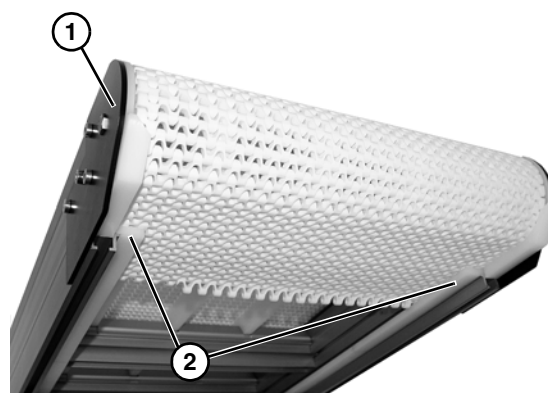

Figure 13
2. Wrap belt around idler tail (**Figure 13, item 1**).
3. Install belt around lower frame section and above lower wear strips (**Figure 13, item 2**).